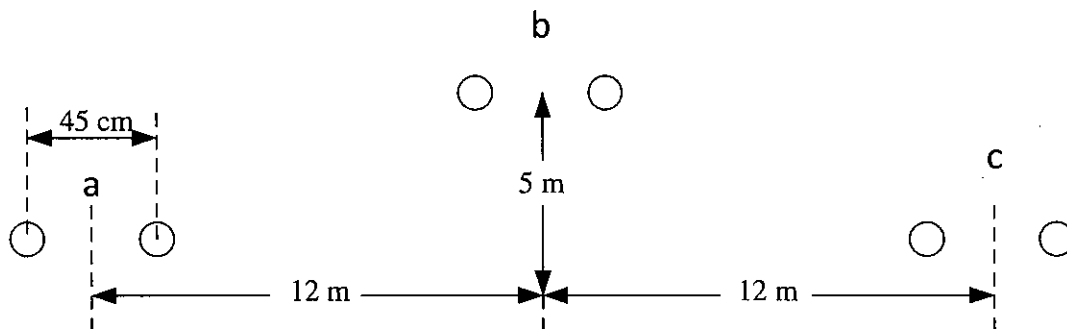

Figure Q5
- b) A 220 kV, 50 Hz three phase line consisting of two- conductor bundle per phase is shown in Figure Q5. The conductors have a radius of 1.5 cm and GMR of 0.8839 cm and placed 45 cm apart in a bundle. The line is fully transposed and placed in the vertices of a triangle as shown in Figure Q5. The distances are measured from the center of the bundle.